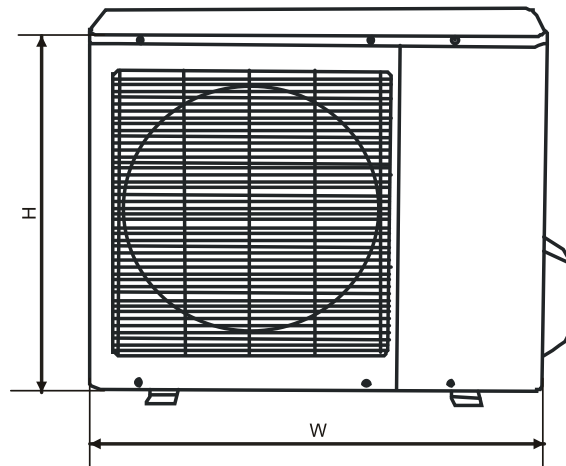
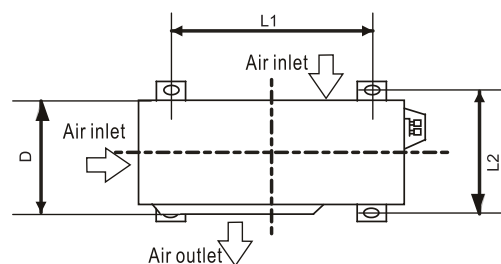

Fig. 6-2
Fig. 6-3
- The minimum distance between the outdoor unit and obstacles described in the installation chart does not mean that the same is applicable to the situation of an airtight room. Leave open two of the three directions. (Refer to Fig. 6-3)
Refer to Fig. 6-2 ~ Fig. 6-3